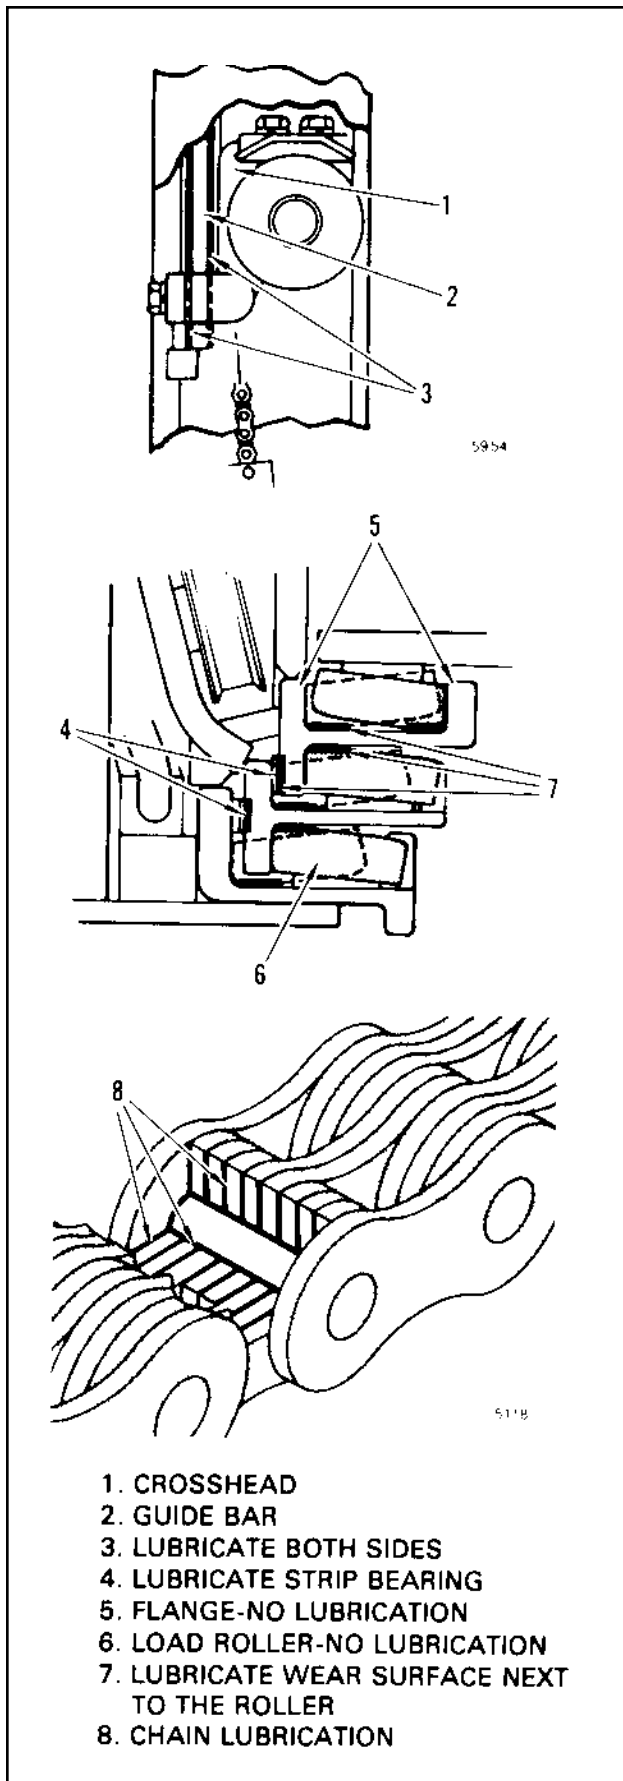

FIGURE 13. UPRIGHT LUBRICATION
A. Lubricate the sliding surfaces as shown in Figure 13. Apply lubricant only to the indicated surfaces. Do not lubricate the rolling surfaces of the load rollers. Lubricant on the load rollers can hold dirt and prevent the load rollers from turning. Flat areas will wear on the load rollers when they do not turn freely.